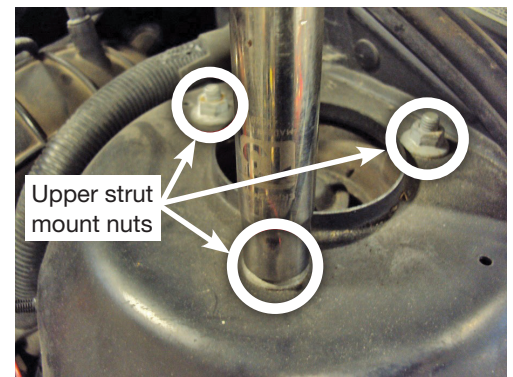

fig. 6
4. Remove the three upper strut mount nuts (Fig. 6) and remove the strut from the vehicle.